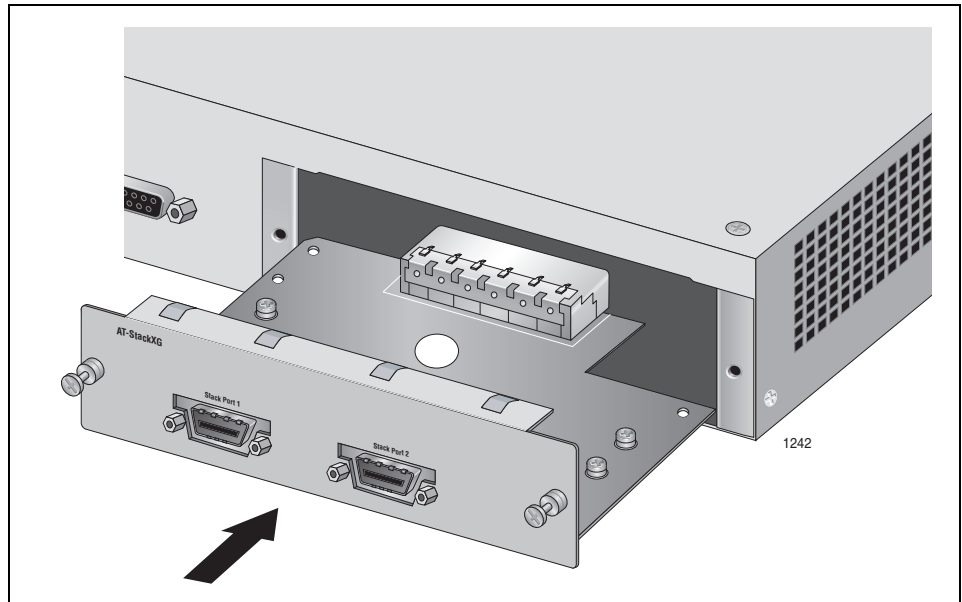

Figure 10. Installing the AT-StackXG Stacking Module
3. Align the edges of the module with the guides in the slot and carefully slide the module into the chassis until it is flush with the back panel of the chassis, as shown in Figure 10 on page 41. Light pressure may be needed to seat the module on the connector on the back panel of the chassis.